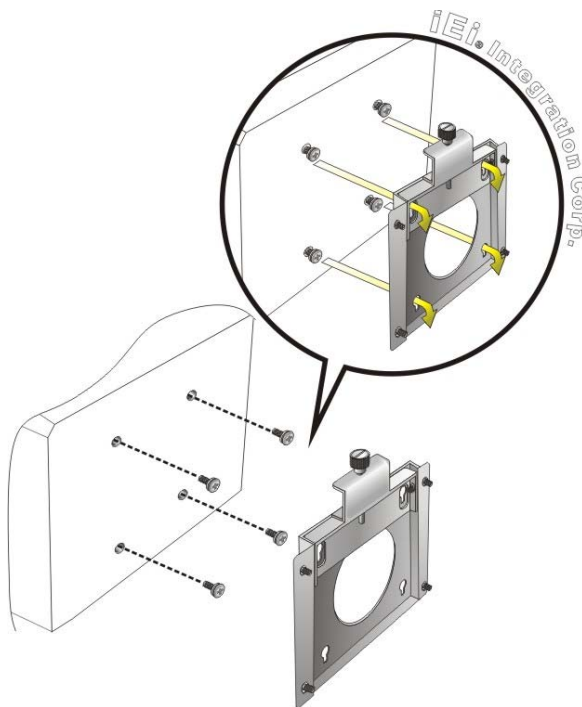

Figure 3-16: Chassis Support Screws
Step 6: Insert the four monitor mounting screws provided in the wall mount kit into the four screw holes on the rear panel of the flat bezel panel PC and tighten until the screw shank is secured against the rear panel (**Figure 3-16**).
Step 8: Carefully insert the screws through the holes and gently pull the monitor downwards until the monitor rests securely in the slotted holes (**Figure 3-16**). Ensure that all four of the mounting screws fit snugly into their respective slotted holes.